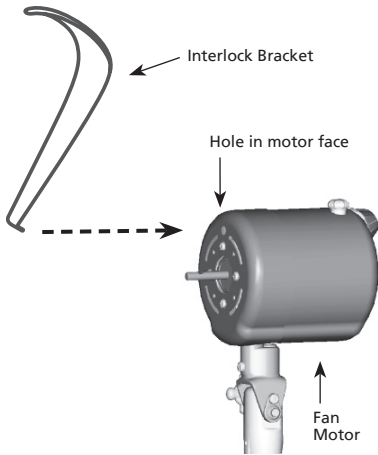
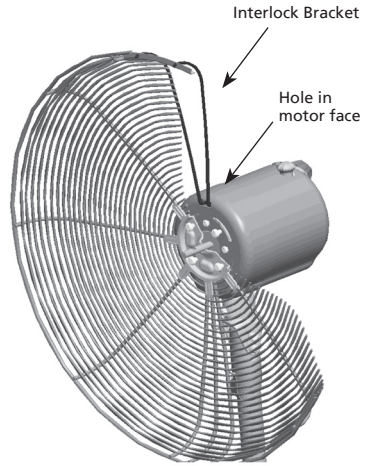

FIGURE 12A
FIGURE 12B
25. Install the Interlock Bracket by tilting it as shown in Figure 12A and inserting the bottom of the Interlock Bracket into the hole on the top of the Motor Face as shown in Figure 12B. Then move the top of the Interlock Bracket forward over the front and Back Grille as shown in Figure 12b.
NOTE: For clarity, the Back Grille and Blade Assembly have been removed from Figure 12A to show the Interlock Bracket installation.